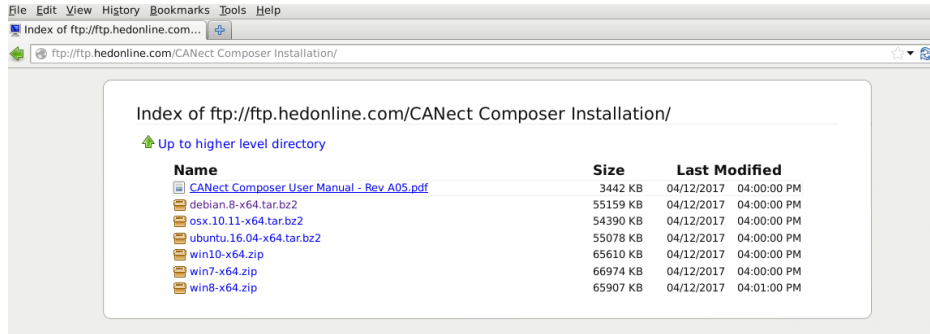

Figure 6: Linux Composer Installation Files List
- An index of CANect® Composer Installation files opens, as shown in Figure 6.